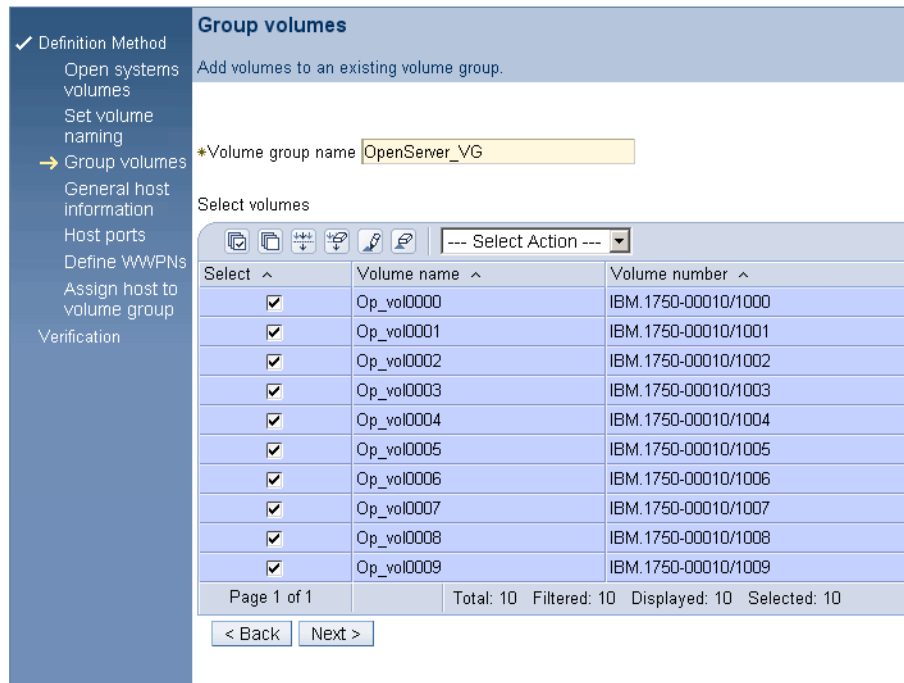

Figure 11-5 Express configuration: Creating a new volume group for the open systems volumes
6. Selecting **Next** opens the volume group window, Figure 11-5, where you can specify a nickname (a maximum of 16 characters) for the new volume group, which will be created, and individually select the volumes for that volume group. Here you can also verify the sequence of nicknames for the created volumes that was generated based on the selections from the previous window. The volumes need to be grouped together in a volume group in order to be assigned to a host system, which will be done in a following step.